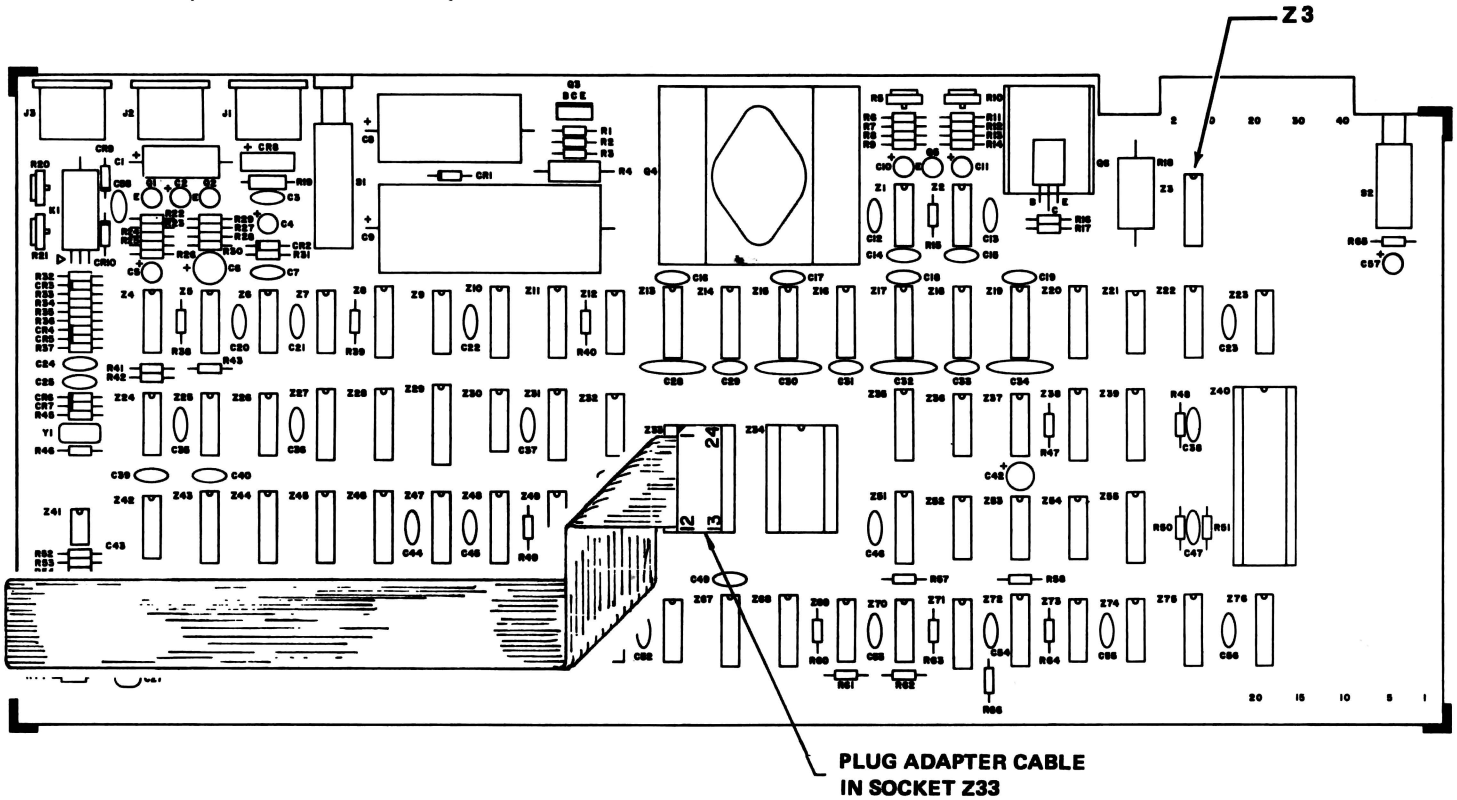

FIGURE 2. LOGIC PRINTED CIRCUIT BOARD (TOP VIEW).
See Figure 2 and perform the following steps:
8. Dress the cable toward the left side of the Board as illustrated in Figure 2.